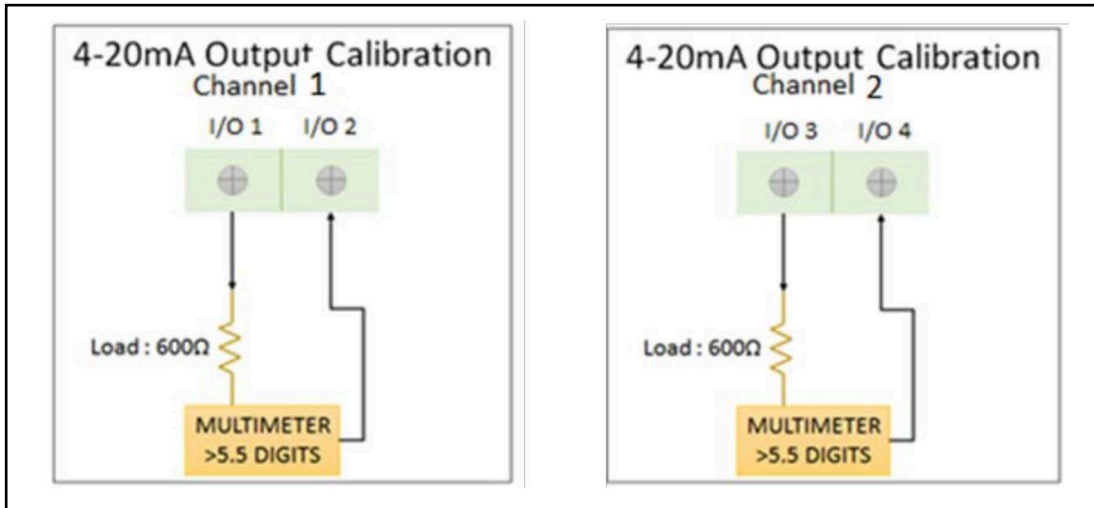

Figure 38: Optional I/O Analog Output Channel 1 and Channel 2 connections
1. Connect the Analog Output as in Figure 38.